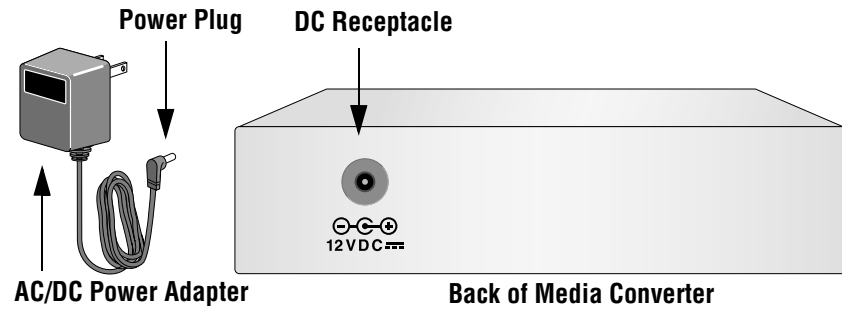

Figure 2 DC Connector
4. Plug the AC/DC power adapter into an appropriate AC power outlet and insert the power plug into the DC receptacle located on the back of the unit. Refer to Figure 2 for the DC connector location. (This step does not apply if you installed the unit in an AT-MCR12 chassis.)